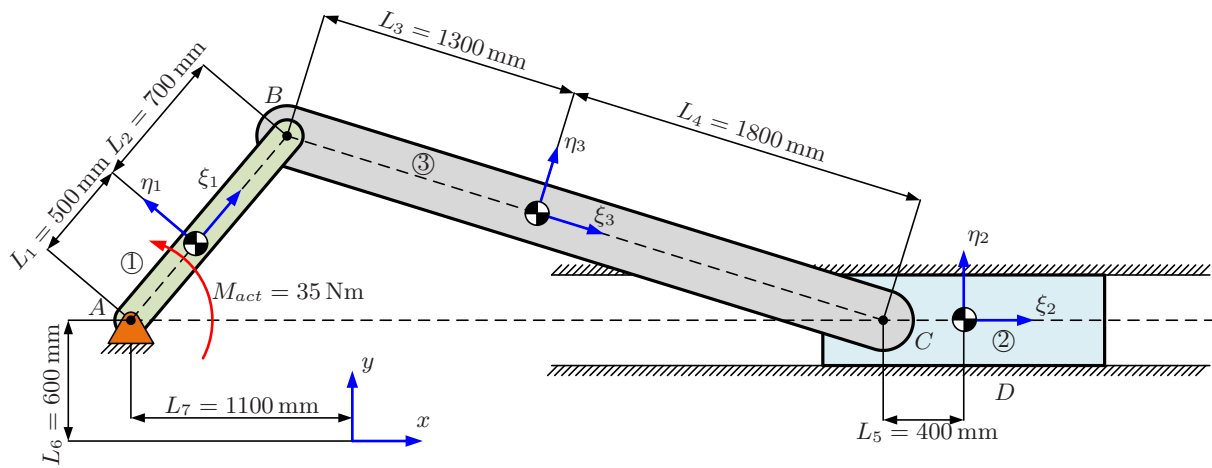

Figure 1: Slider crank system..
Set up the kinematic constraint equations for the mechanical system shown in figure 1. Only the crank shaft (body ①) and the slider (body ②) are to be seen as bodies. Body ③ is not a mechanical body in this exercise. Write the equations by hand and implement them in Matlab to carry out a forward dynamics analysis for the time  $t = 0 \text{ s}..20 \text{ s}$ . A constant moment  $M_{act} = 35 \text{ Nm}$  is applied to body ① as illustrated in figure 1. Viscous friction applies between body ② and ground with a friction coefficient  $c = 25 \frac{\text{Ns}}{\text{m}}$ . Gravity applies in the negative  $y$ -direction. The following mass properties are known:  $m_1 = 7 \text{ kg}$ ,  $J_{G1} = 1.4 \text{ kgm}^2$ ,  $m_2 = 15 \text{ kg}$  and  $J_{G2} = 2.7 \text{ kgm}^2$ . In the initial position the bodies are at rest with  $\phi_1 = \phi_2 = 0 \text{ rad}$ . Plot the results for position, velocity, acceleration, and reactions.